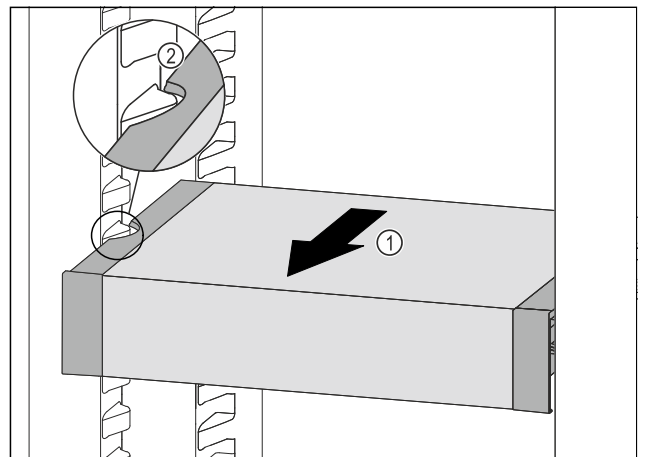

Fig. 131
- Pull VarioSafe forward Fig. 131 (1) until the recesses in the side of the VarioSafe are at the level of the support rib in the refrigerator compartment. Fig. 131 (2)